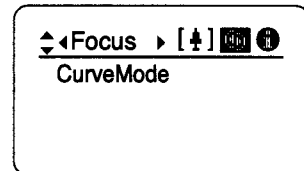

Fig. 3-4
2. Push the Set key, and move the left key three times to display the Focus screen. (See Fig. 3-4)